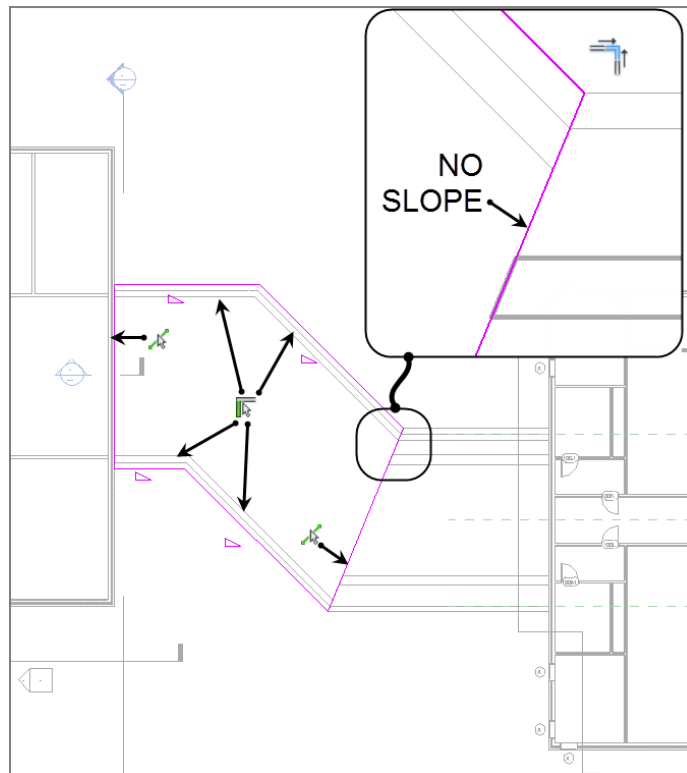

FIGURE 7.29: The new outline of the second roof
8. On your own, sketch the roof shown in Figure 7.29. Make sure the lines along the walls are defining a slope. The lines that represent the ends of the roof don't slope.
10. Review Figure 7.29 to see if your sketch matches. You should have six lines total, and the right and the left ends should not have a slope.